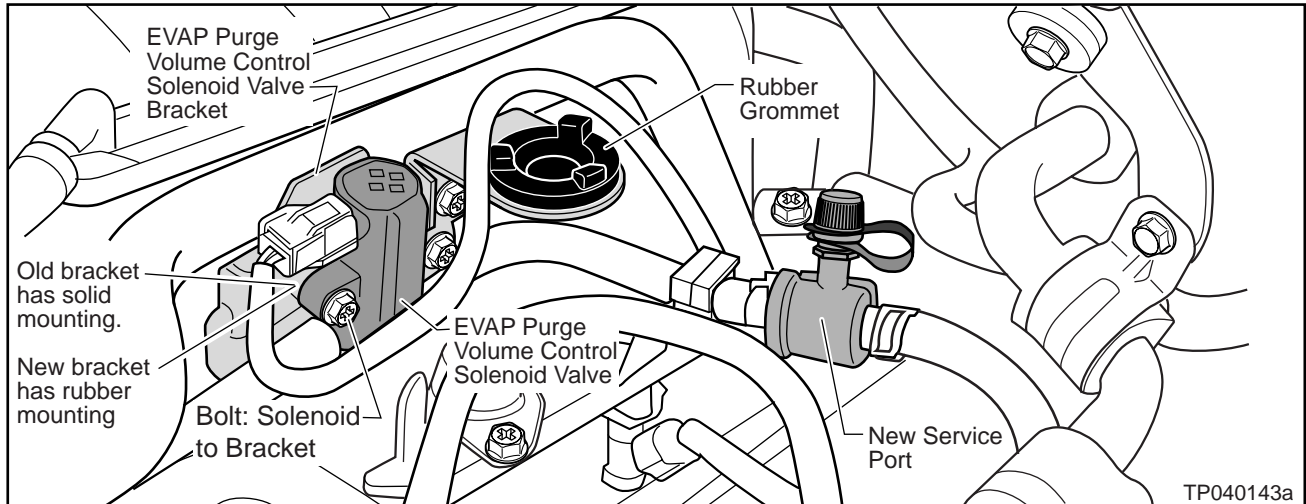

Figure 1
7. Remove the engine cover and replace the following parts (see Figures 1 and 2):
- Make sure you move the rubber grommet and solenoid valve from the old bracket to the new bracket (see Figure 1).